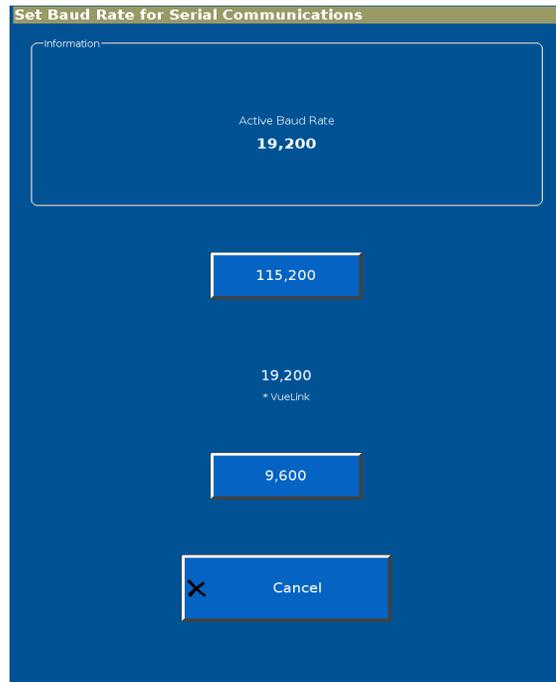

Figure E-9: Set Baud Rate for Serial Communications screen
1. From the System Settings screen, select Baud Rate to display the Set Baud Rate for Serial Communications screen (Figure E-9).